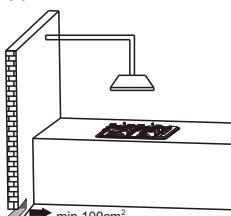

Fig. 2
**NOTE:** The use of a gas cooking appliance results in the production of heat and moisture in the room in which it is installed. Always ensure that the kitchen is well ventilated; keep natural ventilation holes open or install a mechanical ventilation device (Fig. 2).